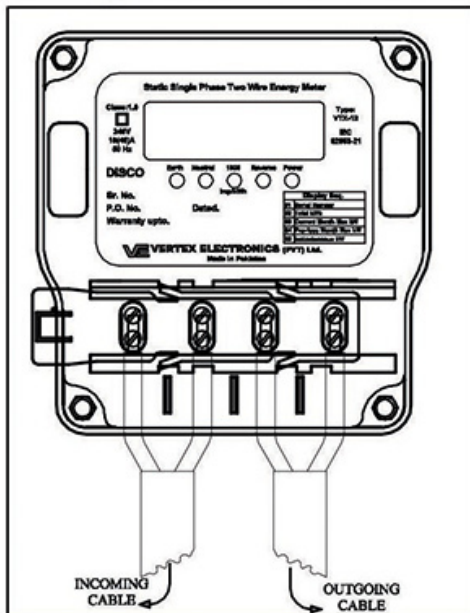

Fig:5
4. Unscrew the terminal screws upto 7-8 revolutions. Do not loose these screws more than 8 revolutions. Insert the cables into respective holes and make sure that the standard portion of cables is fully inserted. After tightening the terminal screws slightly pull down the cables to make sure there is no loose connection. (see Figure 5).